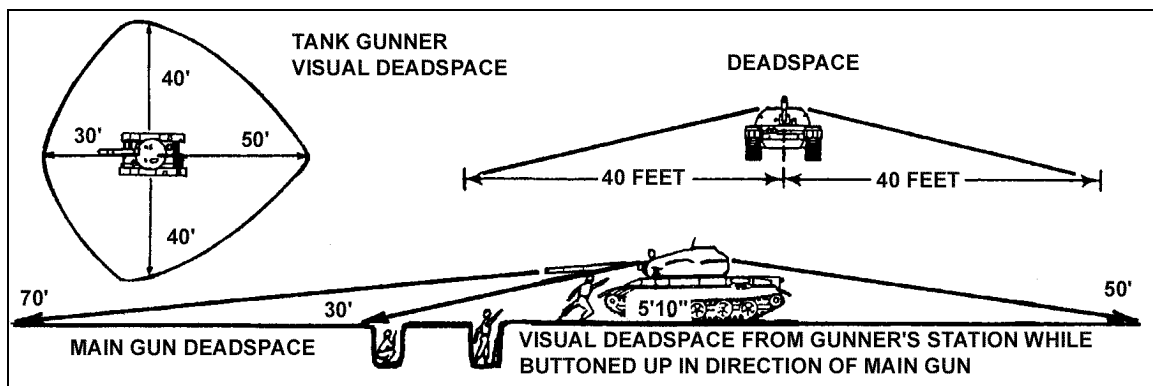
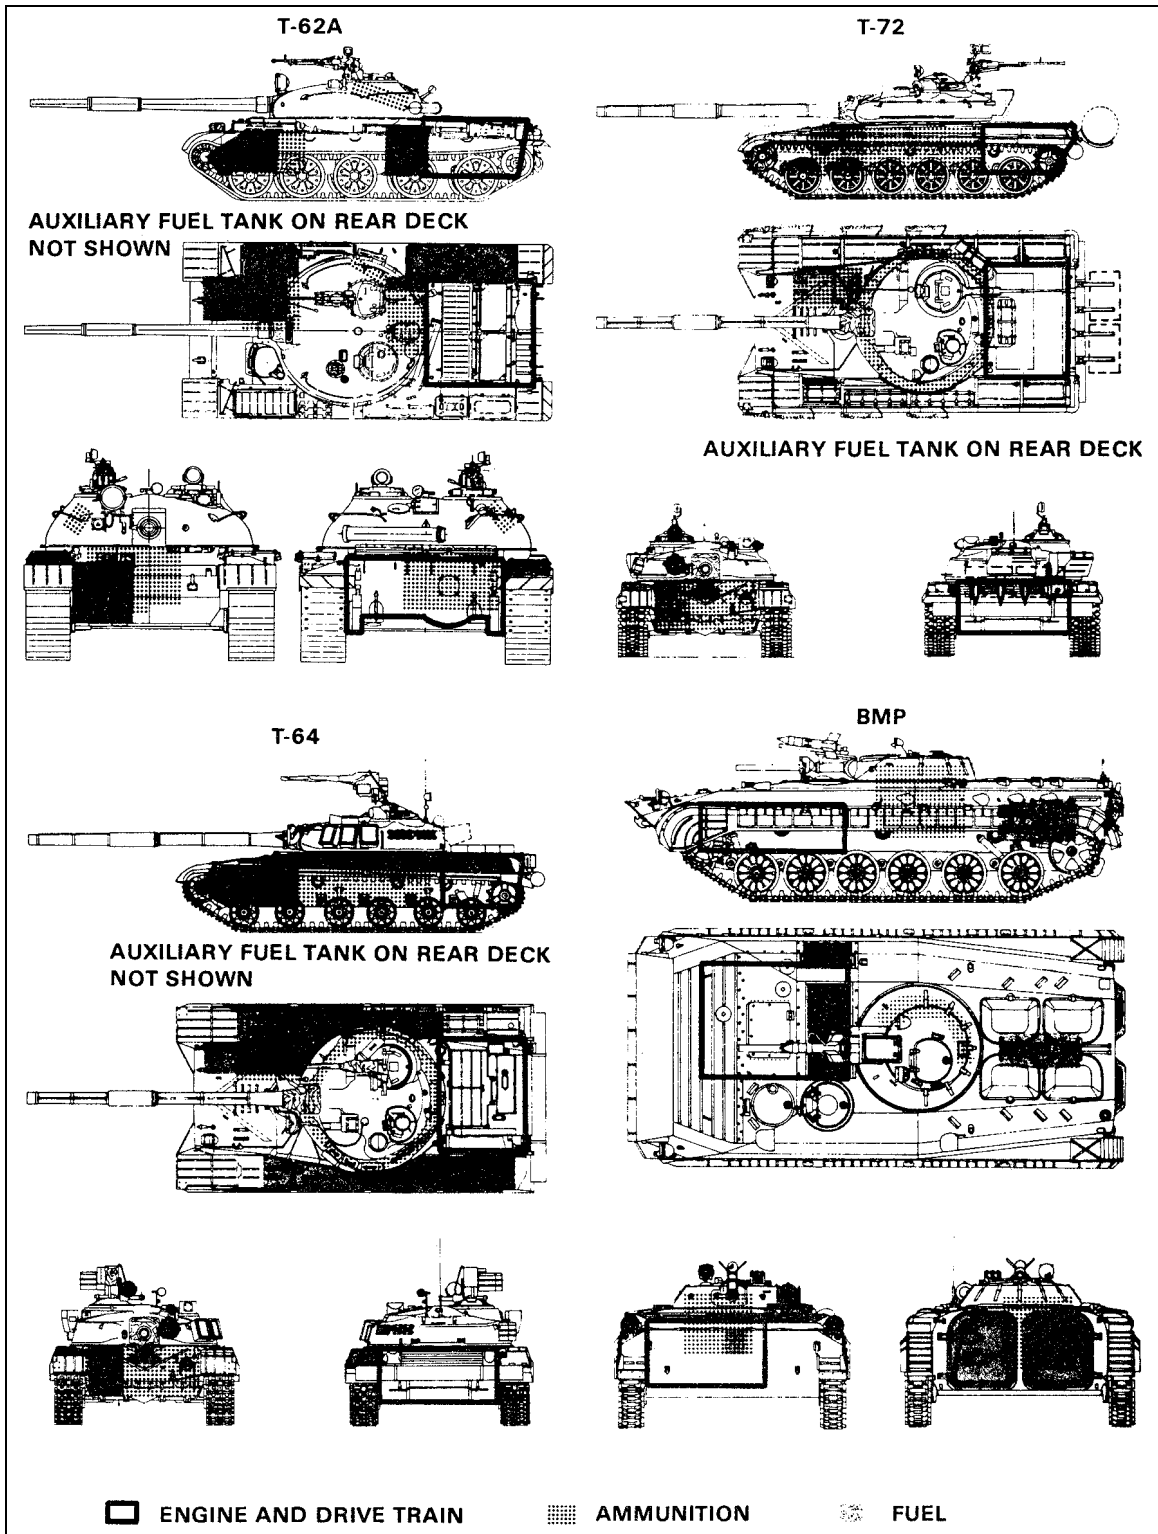

Figure 3-11. Attack of a former Soviet Union tank.
Figure 3-12. Former Soviet Union vehicle vulnerabilities.
b. **Defense Against Enemy Armored and Tracked Vehicles** (Figure 3-11). On occasion, friendly dismounted soldiers may come in close contact with enemy armored formations. Dismounted infantry should first use antitank weapons to defeat enemy armor and motorized infantry. Soldiers can also use satchel charges, as described in FM 5-250, to defeat enemy armor. If these are not available, it is still possible to destroy, immobilize, or render inoperative the vehicle or system, or to kill the crew inside the vehicle. In either case, the soldier must approach the armored vehicle to kill it or the crew with hand grenades. An understanding of some characteristics and vulnerabilities of former Soviet Union armor can help kill or disable the enemy armored vehicle or its crew. Vulnerabilities common to most threat vehicles are the fuel cells, ammunition storage areas, and power trains. Figure 3-12 highlights vulnerable areas on selected threat vehicles.